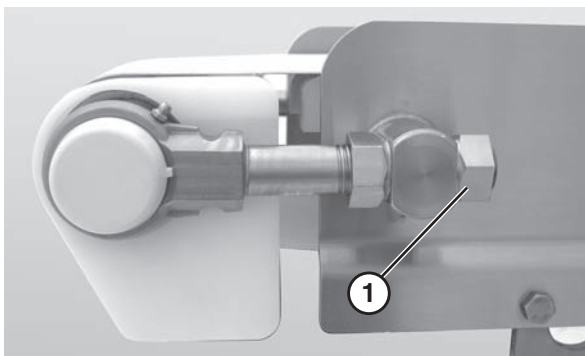

Figure 51
1. Loosen the back nuts (Figure 51, item 1) on both sides of the idler tail shaft.